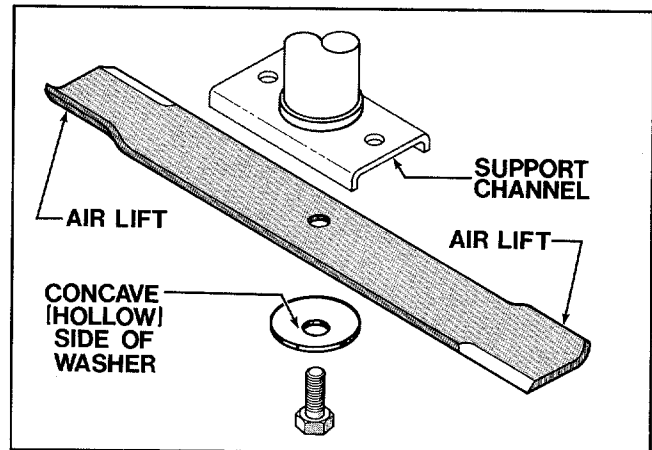

Figure 5-9: Install blade as shown.
D. To reinstall the blade, first place the conical washer on the mounting screw, making certain that the concave side (hollowed side) of the washer is facing away from the head of the screw. See Figure 5-9.